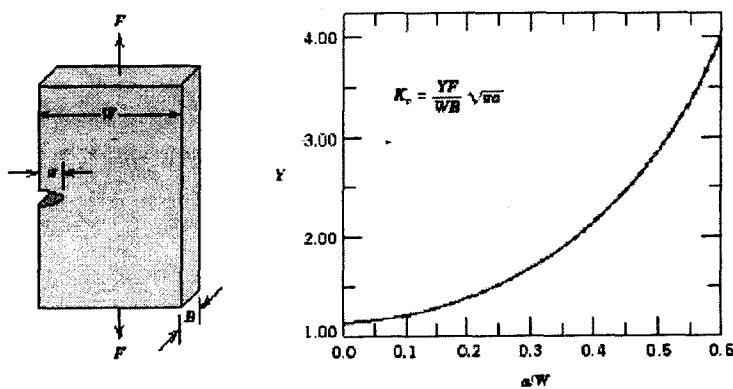

Figure 9: Y calibration curves for three simple crack plate geometries
7. [a] Consider a steel plate having a through thickness edge crack similar to that shown in Figure 9 of $8.7aW$. If it is known that the minimum crack length subject to detection is 3 mm, determine the minimum allowable plate width assuming a plane strain fracture toughness of $65.0 \text{ MPa m}^{1/2}$, and yield strength of 1000 MPa , and that the plate is to be loaded to half of its yield strength.